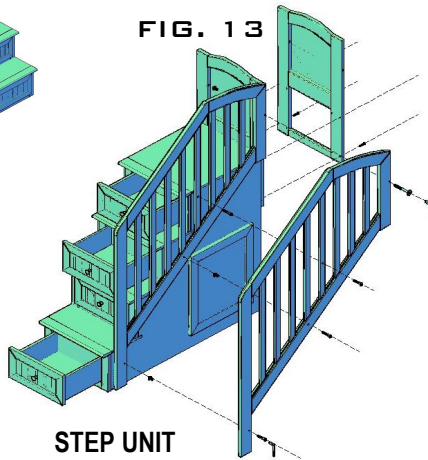

FIG. 13
- 1.- PROCEED TO ASSEMBLE THE STEP UNIT, FIRST CHOOSING THE CONFIGURATION THAT FITS YOUR ROOM, **LEFT OR RIGHT** SEE FIG. 13, IF LEFT GO TO STEP #3 OR RIGHT GO TO STEP #2
- 2.- CHANGE DOOR THAT IS FACTORY INSTALLED IN LEFT SIDE TO THE RIGHT SIDE, USING A PHILLIPS SCREWDRIVER (**NOT INCLUDED**), REMOVE SCREWS FROM CASE PORTION OF THE HINGES, KEEP THE HINGES FOR ATTACH THE DOOR (FIG.13) (**SAVE THE SCREWS TO RE-ATTACH THE DOOR TO RIGHT SIDE**), THEN INSTALL DOOR ON THE RIGHT SIDE.
- 3.- TAKE THE BACK FRAME (F), PLACE IT IN THE BACK OF STEP UNIT (A), ALIGNING THE BACK FRAME HOLES WITH THE METAL INSERTS, FASTENING WITH FOUR 1 1/2" PAN HEAD SCREWS (L), SEE FIG.13
- 4.- REMOVE FIRST, SECOND AND FOURTH DRAWERS FROM STEP UNIT (A), ALIGNING HANDRAIL HOLES (E) WITH STEP UNIT HOLES IN THE SAME SIDE DOOR, INSERTING ONE 35MM BOLT (H) FROM OUTSIDE ON OF HANDRAIL, ALIGNING HANDRAIL HOLE WITH BACK FRAME HOLE IN THE TOP, INSERTING ONE 100MM BOLT (G) THEN INSERT ONE CAP NUT (I) IN EACH BOLT, FASTEN USING ALLEN WRENCH (J, K), TIGHT ALL BOLTS UNTIL SECURE, SEE FIG.13